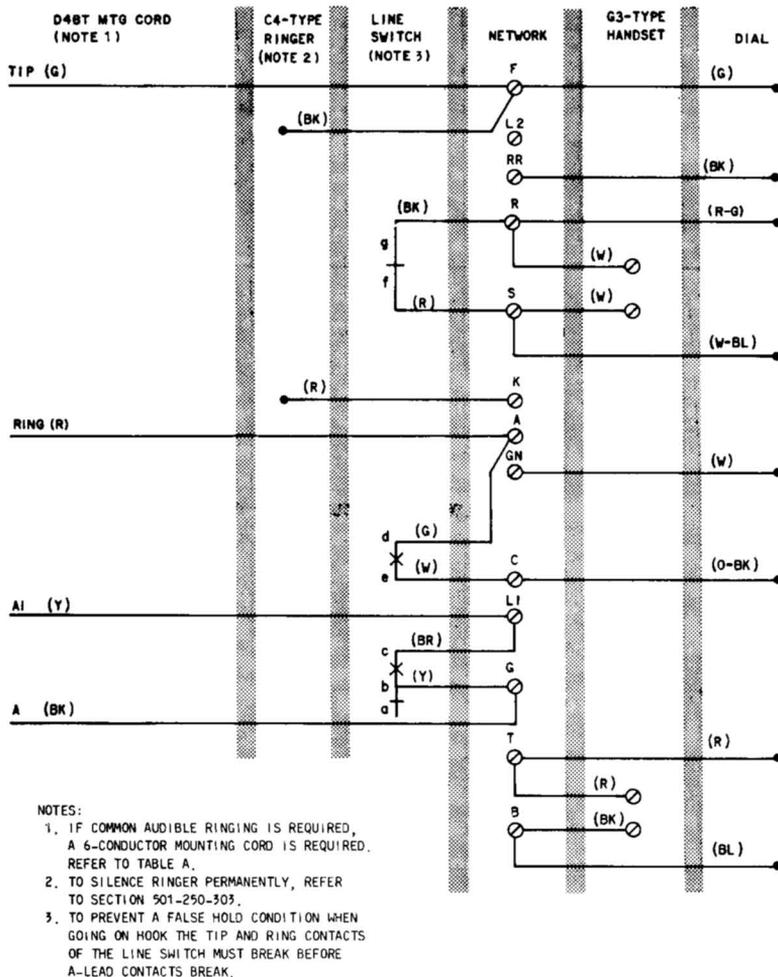

Fig. 1—2500M (MD) Telephone Set, Connections
**1.01** This section contains information on the 2500M (MD) and 2500MM telephone sets (Fig. 1 and 2).
- Revise Fig. 1 and 2
*Note 2:* If set is equipped with a 4-conductor mounting cord (Fig. 1 and 2) replace with a 6-conductor mounting cord.
*Note 3:* Use D-161488 connector to connect the (R) ringer lead to the (W) mounting cord or jack lead.